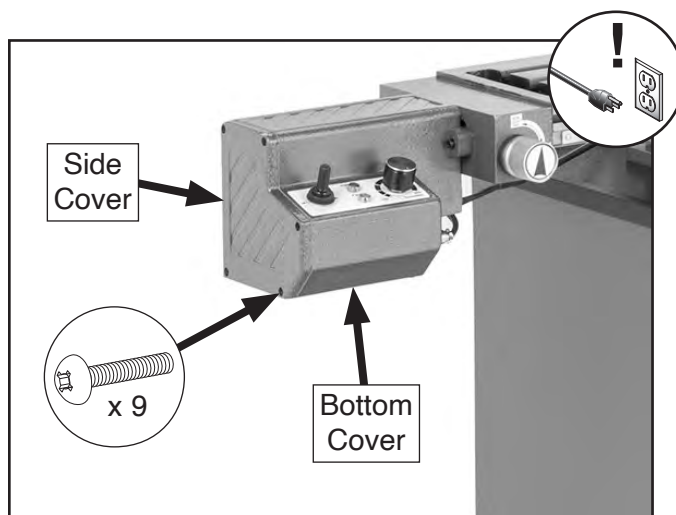

Figure 72. Location of power feed covers.
2. Remove (9) Phillips head screws to open power feed side and bottom covers (see **Figure 72**).